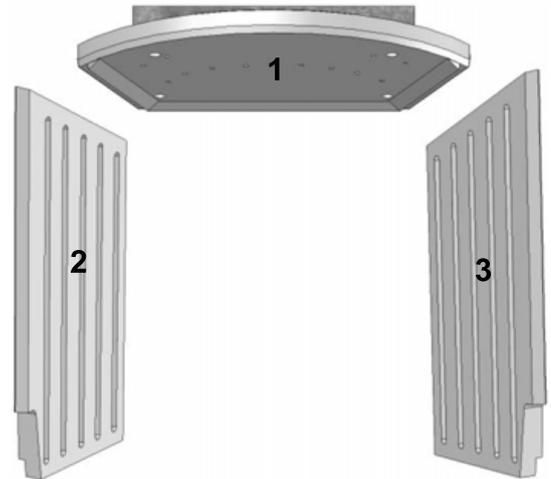

FIG 8
**Should it be necessary to unhook the door/doors,** unscrew the lid (FIG 8) above the air vent control. The lid is fastened underneath with 3 screws / Allen screws. When the lid is removed, the door/doors are free to unhook.